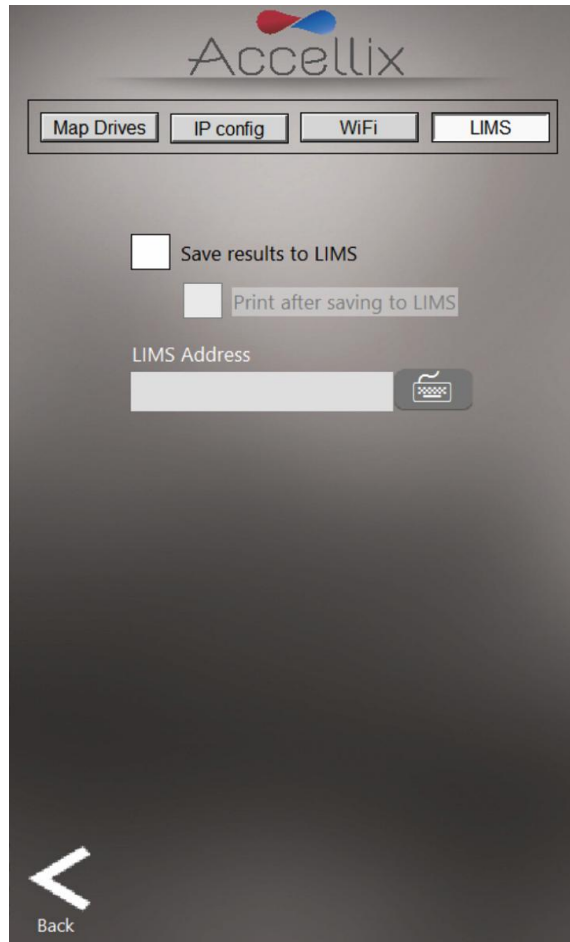

Figure 27: Network screen: LIMS tab
4. To configure a system to save data to the LIMS system, select the LIMS tab (Figure 27). To enable the system to save data to the LIMS system: